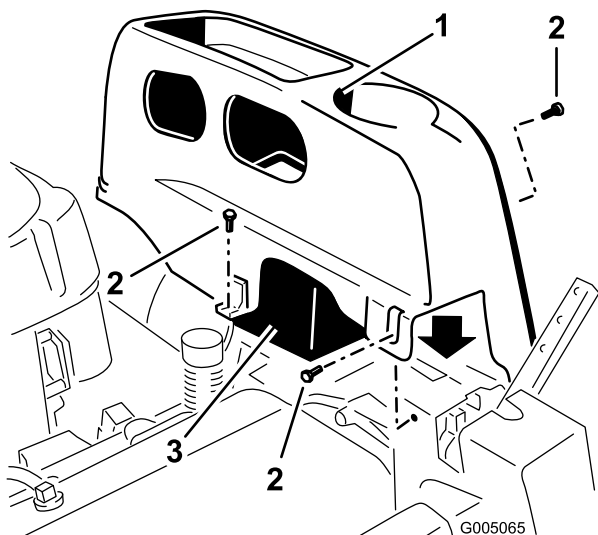

Figure 20
2. Remove the TORX® head fasteners (T25) securing the left cover to the frame as shown in Figure 20.